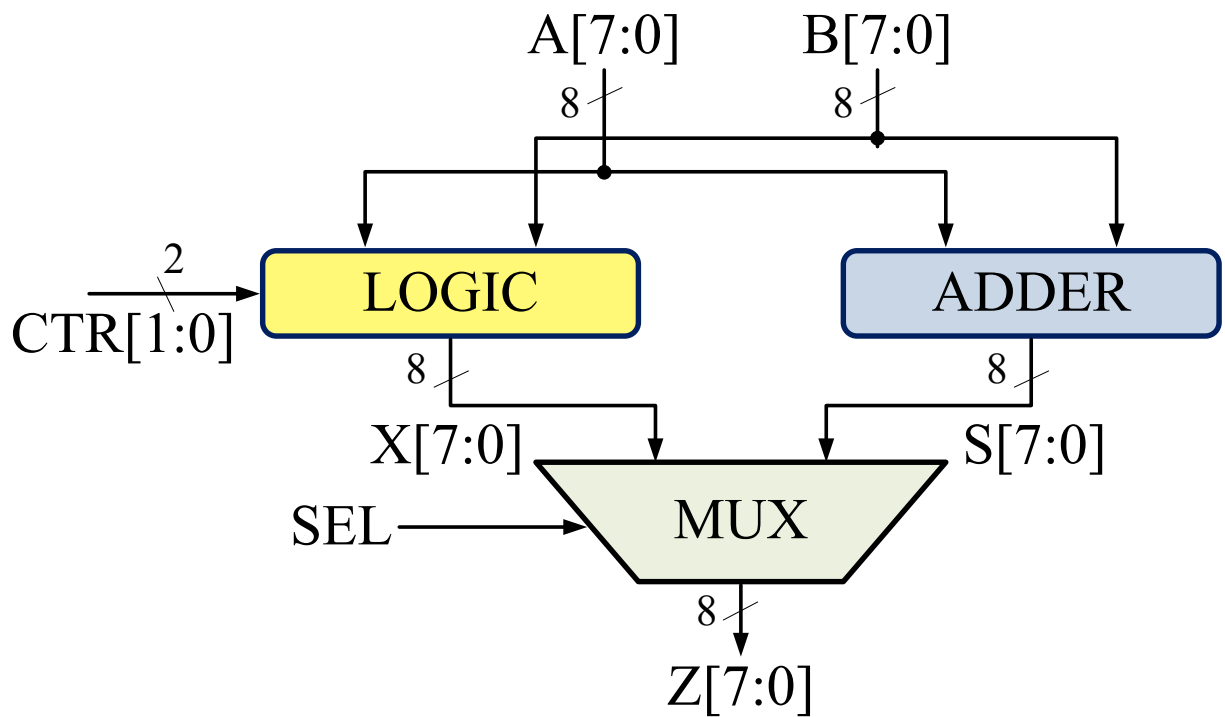

Figure 1 – Block Diagram of the 8-bit ALU
The block diagram of the 8-bit ALU that you will design in this project is shown in Figure 1. It consists of three building blocks: a logic block, an adder and a multiplexer. This system has two 8-bit input signals *A* and *B*. These signals are the inputs of the logic block and the adder. Logic block performs a logic function determined by the control signal *CTR*, over the inputs *A* and *B*. The adder performs the addition of the two inputs. Finally, the multiplexer selects the output signal *Z* of the ALU, as the output of either the logic block (*X*) or the adder (*S*), depending on the select signal *SEL*. The two blocks (logic and adder) will be described in details in the following sections.
- ✓ **Important!** It has to be noticed that if $SEL = 0 \rightarrow Z[7:0] = X[7:0]$ and that if $SEL = 1 \rightarrow Z[7:0] = S[7:0]$ (see Figure 1).
- ✓ **Important!** The name of the top-level cell has to be exactly **ALU_8bit**. Furthermore, all the pins in the top-level cell have to be named exactly as given in Figure 1. The functionality of all the pins has to be as discussed in the instructions. Please **do not** use logically inverted pins, or you may use them but the logical function (looking from the outside) has to remain the same.